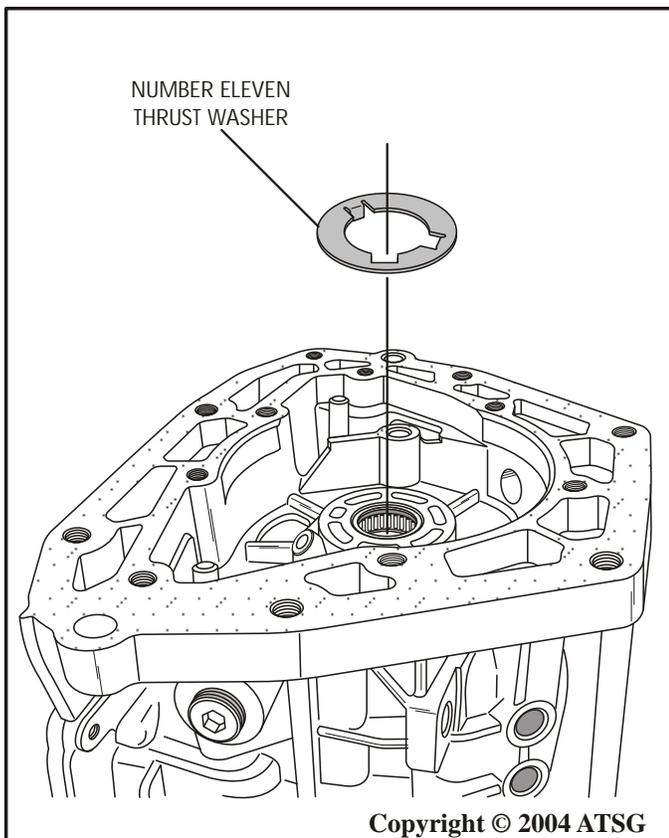

Figure 55
- 66. Remove and tag for I.D. the park gear thrust washer (No. 11), as shown in Figure 55.